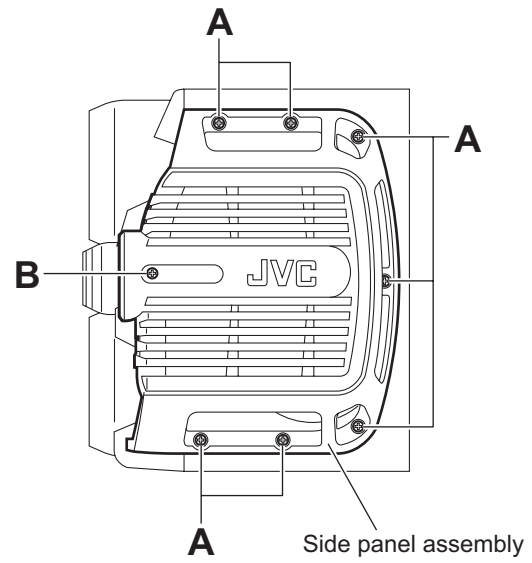

Fig.1
3.4.1 Removing the side panel assembly (See Fig.1)